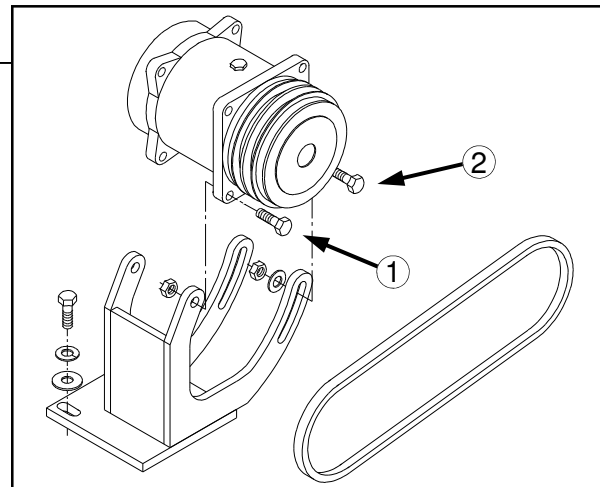

FIG 96-4
A/C COMPRESSOR BELT– To tighten air conditioner compressor belt, loosen the two pivot bolts (fig. 96-4, item 1) and the two slide bolts (fig. 96-4, item 2). Using a suitable prying tool, adjust tension on the belt to the desired tautness. While maintaining tension, re-tighten all four bolts. Inspect belt every 250 hours.